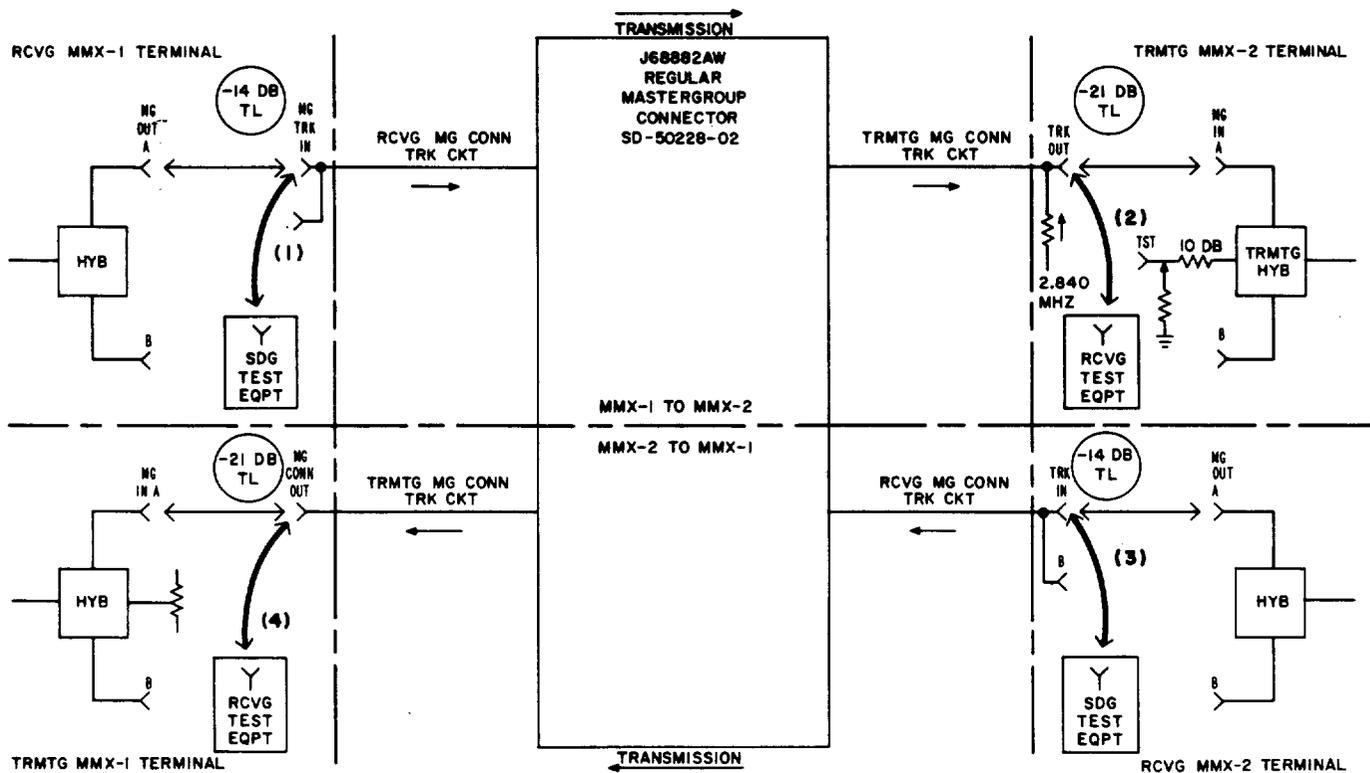

Fig. 2—Regular Mastergroup Connector Test Connections
<ul style="list-style-type: none"> <li>(a) Check that the transmission path to be tested is out of service.</li> <li>(b) Locate the test jacks (Fig. 2) for the transmission path to be tested.</li> <li>(c) Locate the mastergroup connector and the controls in the transmission path to be tested.♦</li> </ul>
1	Apply a 1.8-MHz test signal at -14 dBm to the MG TRK IN ( TRK IN ) jack in the MMX-1 ( MMX-2 ) receiving bay [patch 1 ( 3 ), Fig. 2].
2	Measure the 1.8-MHz power at the TRK OUT ( MG CONN OUT ) jack in the MMX-2 ( MMX-1 ) transmitting bay [patch 2 ( 4 ), Fig. 2].
<p>Note: In case of trouble, continue signal tracing in the mastergroup connector and the trunk circuits. ♦Test procedures for the mastergroup distribution frame are explained in Section 356-005-501.♦</p> <p>Slope Measurements</p> <p>At MMX receiving bay,</p> <p>8 Apply a 0.6-MHz test signal at -14 dBm to the MG TRK IN (TRK IN) jack [patch 1 (3), Fig. 2].</p> <p>At MMX transmitting bay,</p> <p>9 Measure and record the 0.6-MHz power at the TRK OUT (MG CONN OUT) jack [patch 2 (4), Fig. 2].</p> <p>10 Repeat Steps 8 and 9 for a 3.0-MHz test signal.</p> <p>Requirement: The 3.0-MHz signal power shall be within <math>\pm 0.4</math> dB of the 0.6-MHz signal power.</p> <p>11 Proceed to Part C of this chart to check the pilot elimination filter if the requirement is met. Otherwise, proceed to Part B of this chart to adjust the appropriate 210B cable equalizer in the mastergroup connector.</p> <p>B. Cable Equalizer Adjustments</p> <p>At mastergroup connector,</p> <p>Caution: Use care, both when opening and when closing the drawer, to avoid trouble.</p> <p>12 Set the cable equalizer screw switches, as indicated on the top line in Table A, to provide 0.0-dB slope correction.</p> <p>At MMX receiving bay,</p> <p>13 Apply a 3.0-MHz test signal at -14 dBm to the MG TRK IN (TRK IN) jack in the MMX-1 (MMX-2) receiving bay.</p> <p>At MMX transmitting bay,</p> <p>14 Measure and record the 3.0-MHz power at the TRK OUT (MG CONN OUT) jack in the MMX-2 (MMX-1) transmitting bay.</p> <p>15 Repeat Steps 13 and 14 for a 0.6-MHz test signal.</p>
23	Measure and record the power of these pilot signals at the TRK OUT jack [patch (2), Fig. 2].
25	Apply a test signal at each of the appropriate pilot frequencies at -10 dBm to the MG TRK IN jack [patch (1), Fig. 2].
26	Measure and record the power at the TRK OUT jack [patch (2), Fig. 2].
31	Measure and record the power of the 2.840-MHz pilot at the MG CONN OUT jack [patch (4), Fig. 2].
33	Apply a 2.840-MHz test signal at -10 dBm to the TRK IN jack of the mastergroup connector under test [patch (3), Fig. 2].
34	Measure the power of the 2.840-MHz signal at the MG CONN OUT jack [patch (4), Fig. 2].